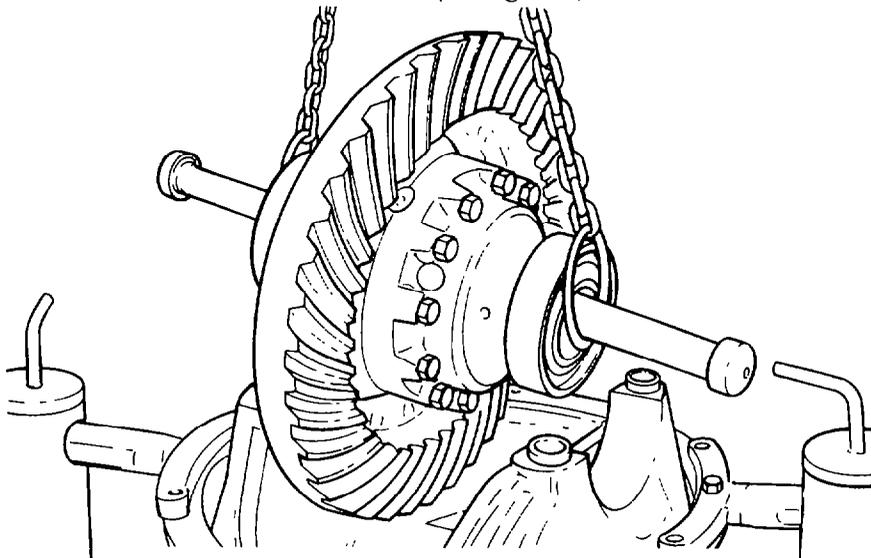

Fig. 346 — Removing Differential from the Carrier
- c. Insert a suitable bar or rod stock through the differential then using an overhead lifting device, remove the differential from the carrier (see fig. 346).